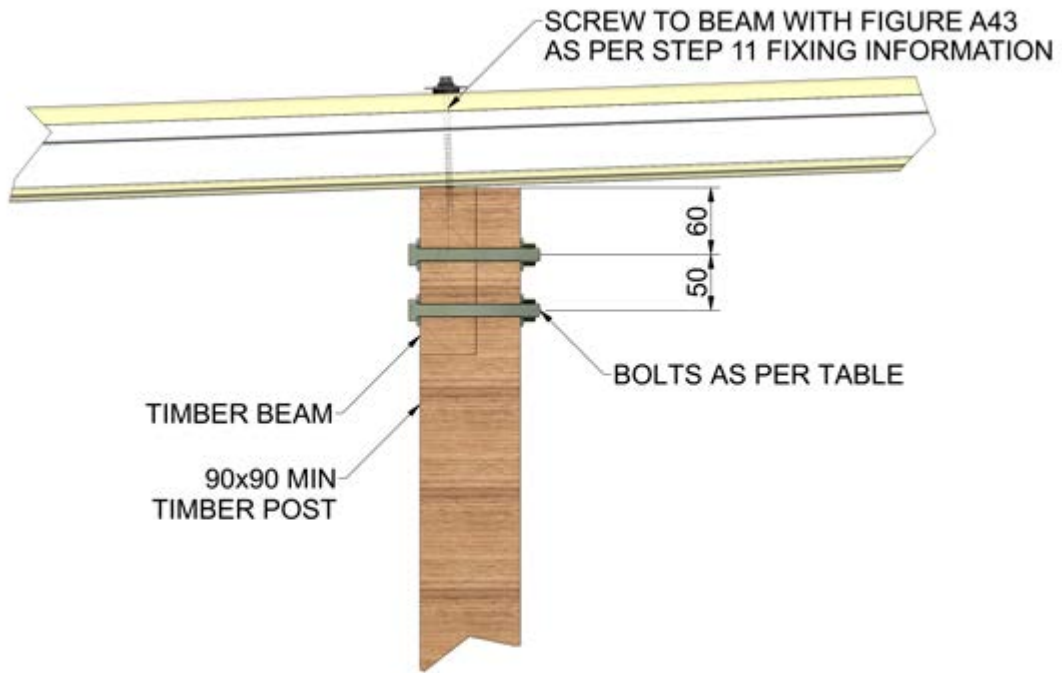

Figure A21
**Timber Post to Timber Beam (see Figure A21)**